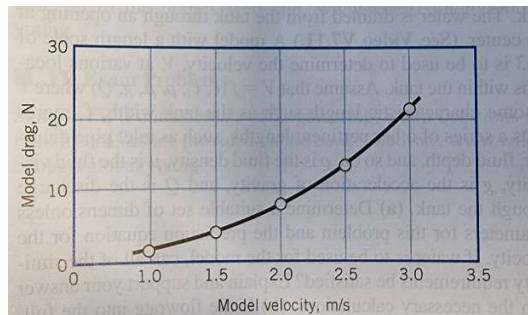

Figure 1.
3. The drag on a sphere moving in a fluid is known to be a function of the sphere diameter, velocity, and the fluid viscosity and density. Laboratory tests on a 10-cm diameter sphere were performed in a water tunnel and some model data are plotted in Fig. 1. For these tests the viscosity of the water was  $1 \times 10^{-3} \frac{\text{kg}}{\text{m}\cdot\text{s}}$  and the water density was  $998 \frac{\text{kg}}{\text{m}^3}$ . Estimate the drag on an 2.0 m diameter balloon moving in air at a velocity of 1.5 m/s. Assume the air to have a viscosity of  $1.8 \times 10^{-5} \frac{\text{kg}}{\text{m}\cdot\text{s}}$  and density of  $1.2 \frac{\text{kg}}{\text{m}^3}$ .
From the Fig. 1, for  $V_m = 2.0 \text{ m/s}$ ,  $\mathcal{D}_m = 7.75 \text{ N}$ .